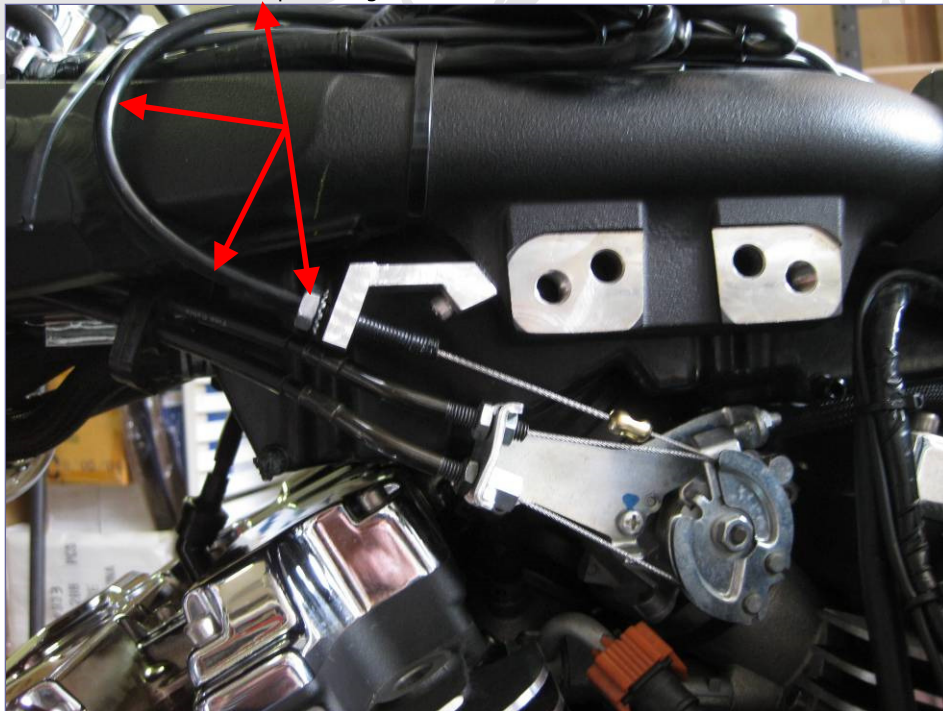

Fig.25
- Loop the throttle cable 180 degrees back to the bell crank by going from the inside of the frame to the outside.(Fig.25)